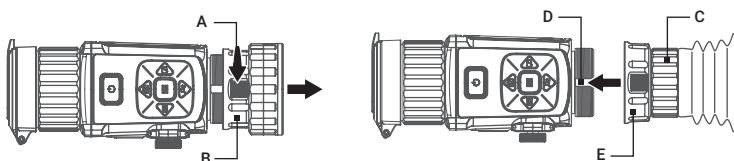

FIGURE 2-8. EYEPIECE REPLACEMENT
1. Rotate the fixing ring (Figure 2-8, A) of clip-on output lens (B) counter clockwise to remove it.
2. Align the optional monocular eyepiece (C) with the grooves (D) of device, and rotate the fixing ring of eyepiece (E) clockwise to tighten it.